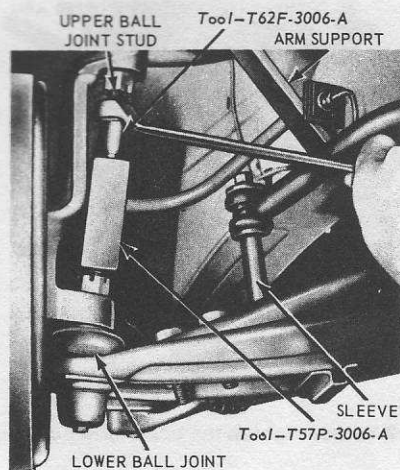

Fig. 11.9 Loosening the balljoint studs (Sec 7)
- 4 Straighten the cotter pin on the upper balljoint stud nut. Position a balljoint remover tool between the upper and lower balljoint studs (see Fig. 11.9). Make sure the tool is seated on the ends of the studs and not on the nuts.